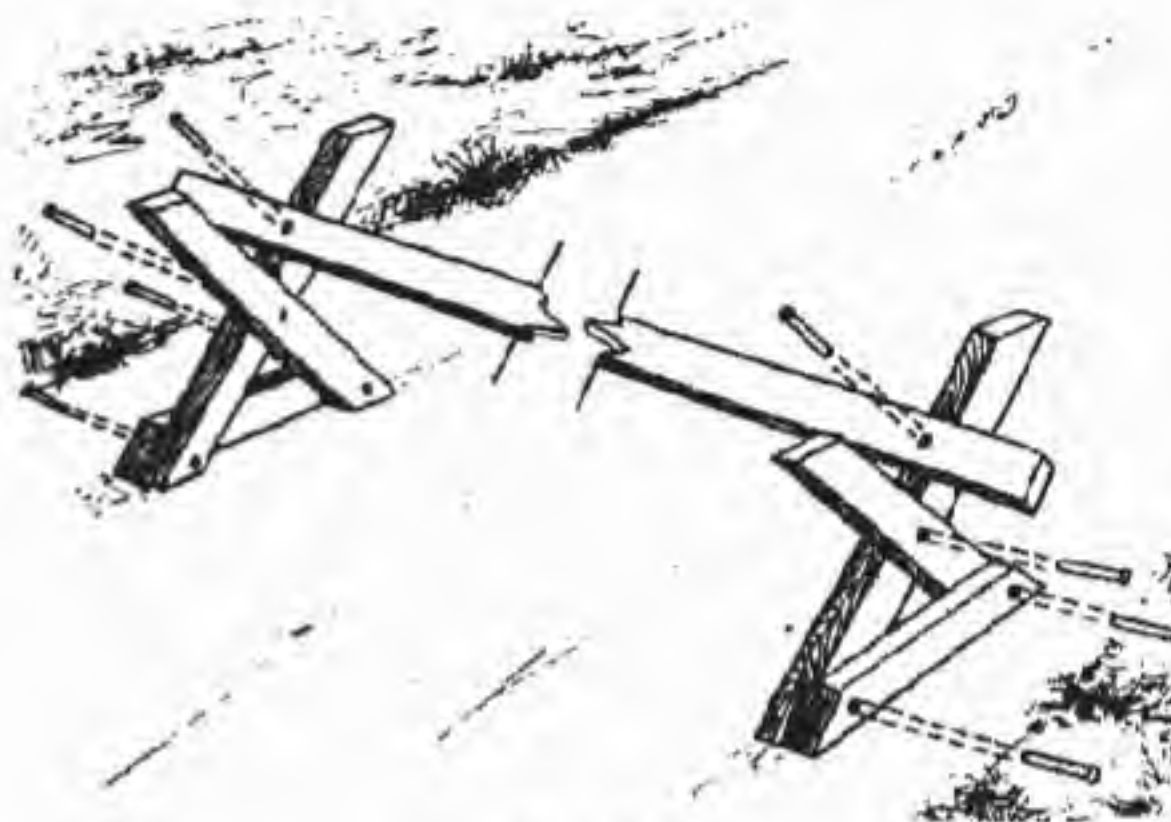

Figure 1
6. **PORTABLE BARRIER** - made so it will fit into a 1/4-ton trailer when collapsed. Need eight 6-foot lengths of 2x4 lumber joined together with bolts (Figure 1). Forms a 12-foot span when erected. When not in use, the barrier may be collapsed by removing the bolts holding the upper horizontal brace